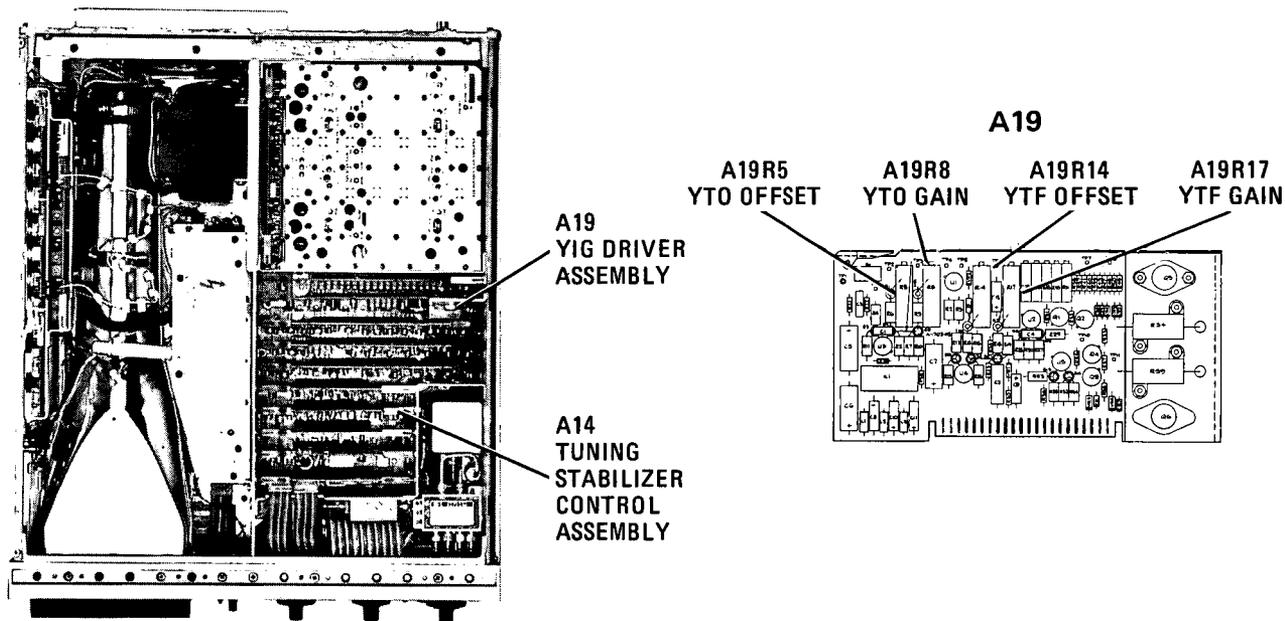

Figure 5-32. YIG Driver Adjustment Locations
- e. Adjust A19R5 YTO OFFSET (Figure 5-32) for a frequency counter reading of $2.050 \text{ GHz} \pm 0.0002 \text{ GHz}$.